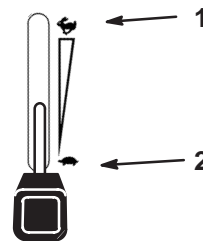

Figure 15
1. Push the PTO to off (Fig. 15).
2. Move the throttle lever midway between the slow and fast positions (Fig. 15).